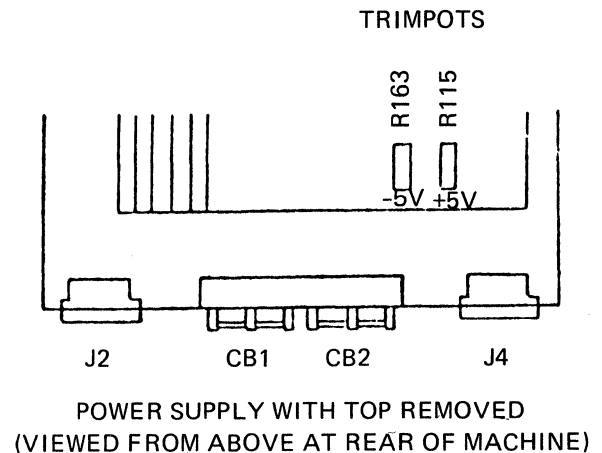

Figure 5-1. Power Supply Adjustments
Figure 5-1 shows the backplane points to monitor the +5 volts. It also shows the location of the potentiometers in the power supply for adjusting the +5 and -5 volt supplies. Follow this procedure to adjust the +5 volts.
- 2) Using a DVM, put the positive lead on the +5 volt stud on the backplane and the negative lead on the DC ground stud on the backplane. Refer to figure 5-1 for the stud locations.